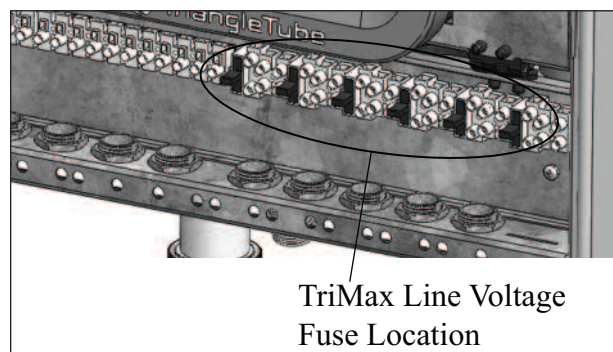
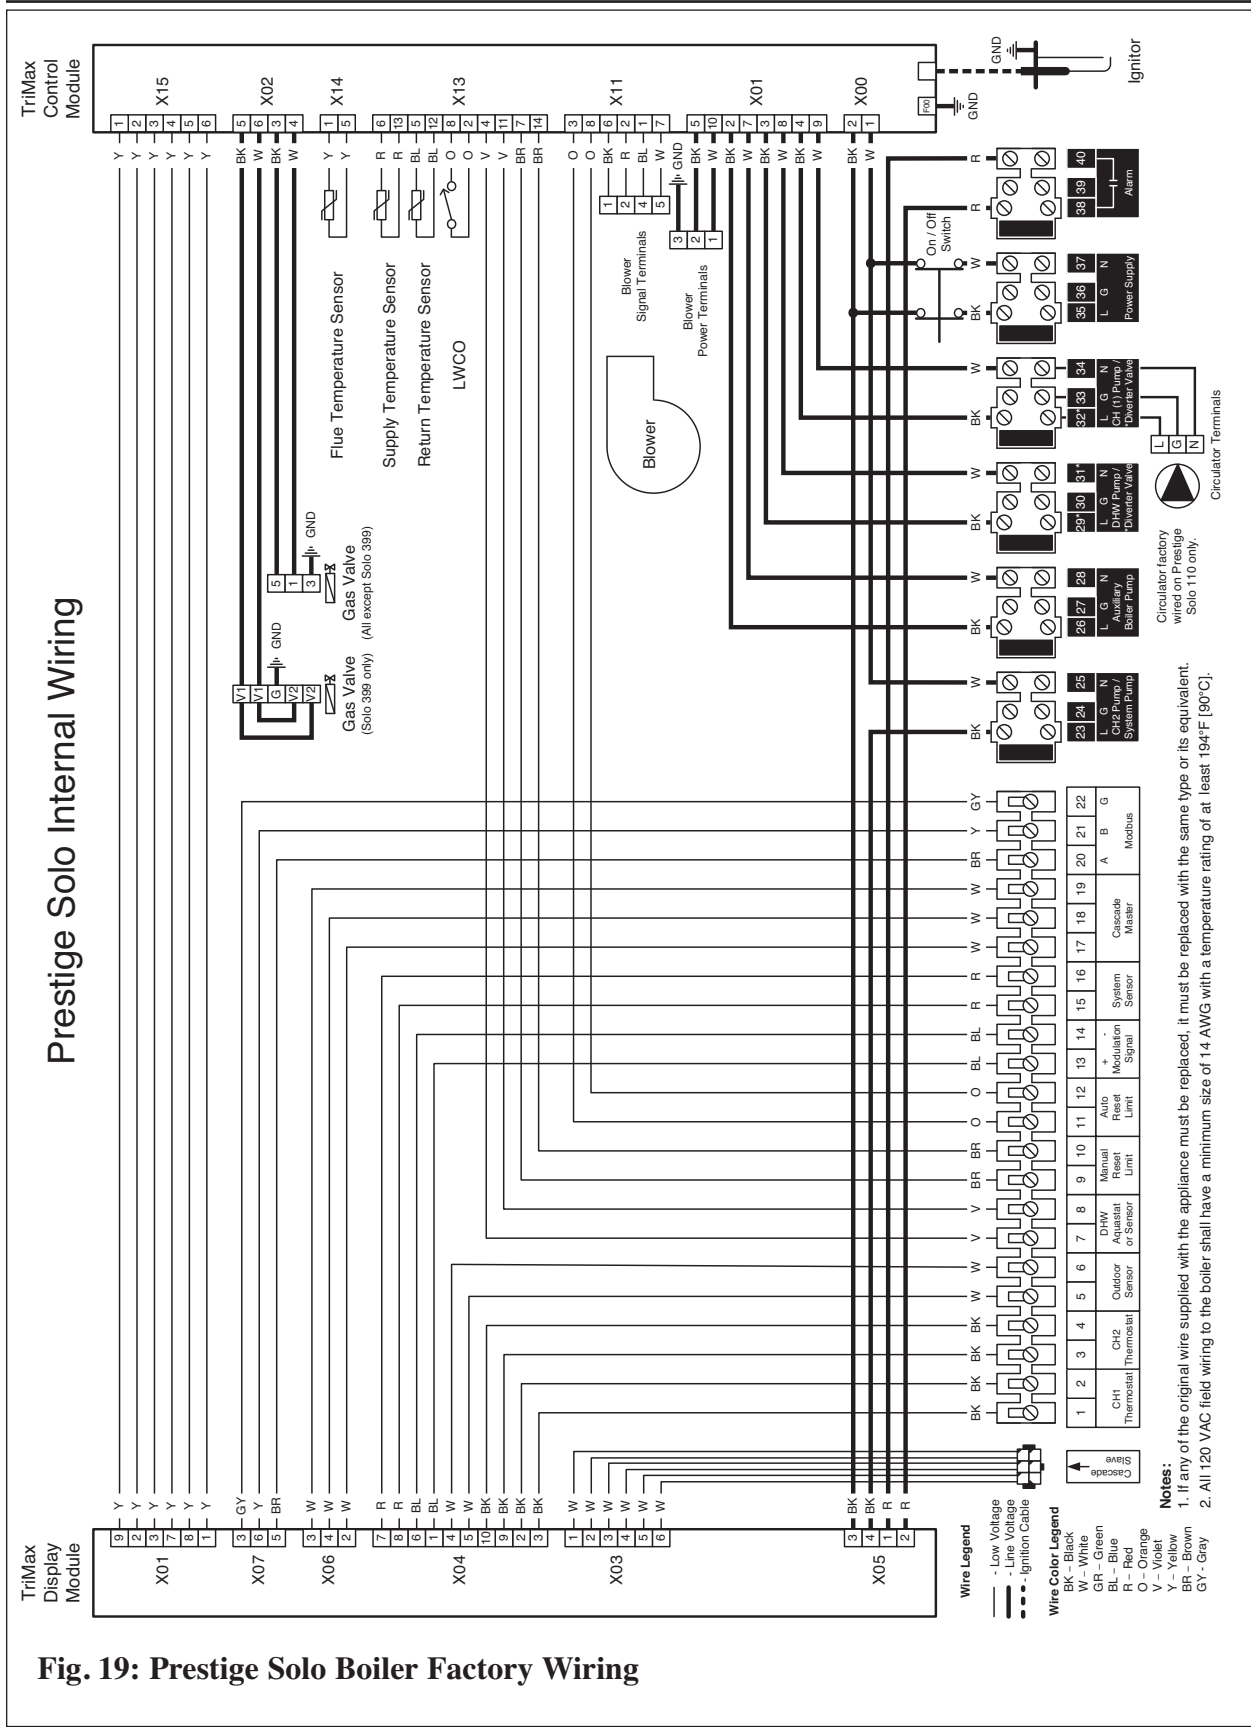

Fig. 18A: Fuse Location on the line voltage Terminals
Fig. 19: Prestige Solo Boiler Factory Wiring
Additional fuses are also located on the line voltage terminals as shown in Fig. 18A and Fig. 19.
1. Connect a dedicated 120 VAC/15A service to the line voltage terminal strip on the wiring panel below the PRESTIGE control module, as shown in Fig. 19, page 31.
2. The CH circulator is prewired to the line voltage terminal strip on the wiring panel below the PRESTIGE control module, as shown in Fig. 19 on page 31. The CH circulator is enabled during a CH 1 or CH 2 call. This circulator is used to supply heat to the central/space heating loop.
3. Connect the DHW circulator to the line voltage terminal strip on the wiring panel below the PRESTIGE control module, as shown in Fig. 19 on page 31. The DHW circulator is enabled during a DHW call. This circulator is used to supply heat to an indirect hot water heater.
4. Connect the Auxiliary Boiler circulator to the line voltage terminal strip on the wiring panel below the PRESTIGE control module, as shown in Fig. 19 on page 31. The auxiliary boiler circulator is enabled during a CH or a DHW call. This circulator is typically used in retrofit applications where the CH and DHW systems are connected to a common boiler supply.
5. Connect the System circulator to the line voltage terminal strip on the wiring panel below the PRESTIGE control module, as shown in Fig. 19 on page 31. The system circulator is enabled during a CH1 or CH2 call with the factory default TriMax settings. This circulator is typically used to circulate water in the secondary CH loop when zoning with zone valves.
1. Connect the external monitoring device to the line voltage terminal strip on the wiring panel below the PRESTIGE control module, as shown in Fig. 19 on page 31.
1. Connect the room thermostat or dry contact end switch to the low voltage terminal strip on the wiring panel below the PRESTIGE control module, as shown in Fig. 19 on page 31.
1. Connect the DHW aquastat or temperature sensor to the low voltage terminal strip on the wiring panel below the PRESTIGE control module, as shown in Fig. 19 on page 31.
2. Connect the additional boiler limit to the low voltage terminal strip on the wiring panel below the PRESTIGE control module, as shown in Fig. 19 on page 31.
1. Connect the system temperature sensor to the low voltage terminal strip on the wiring panel below the PRESTIGE control module, as shown in Fig. 19 on page 31.